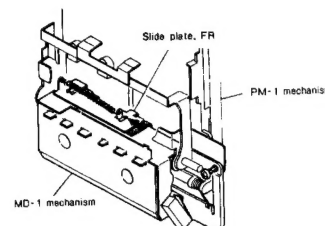

Fig. 25
- 2) After pressing the slide plate (FR) in the direction of the arrow, secure the mechanism assembly screws. (See figure 25)